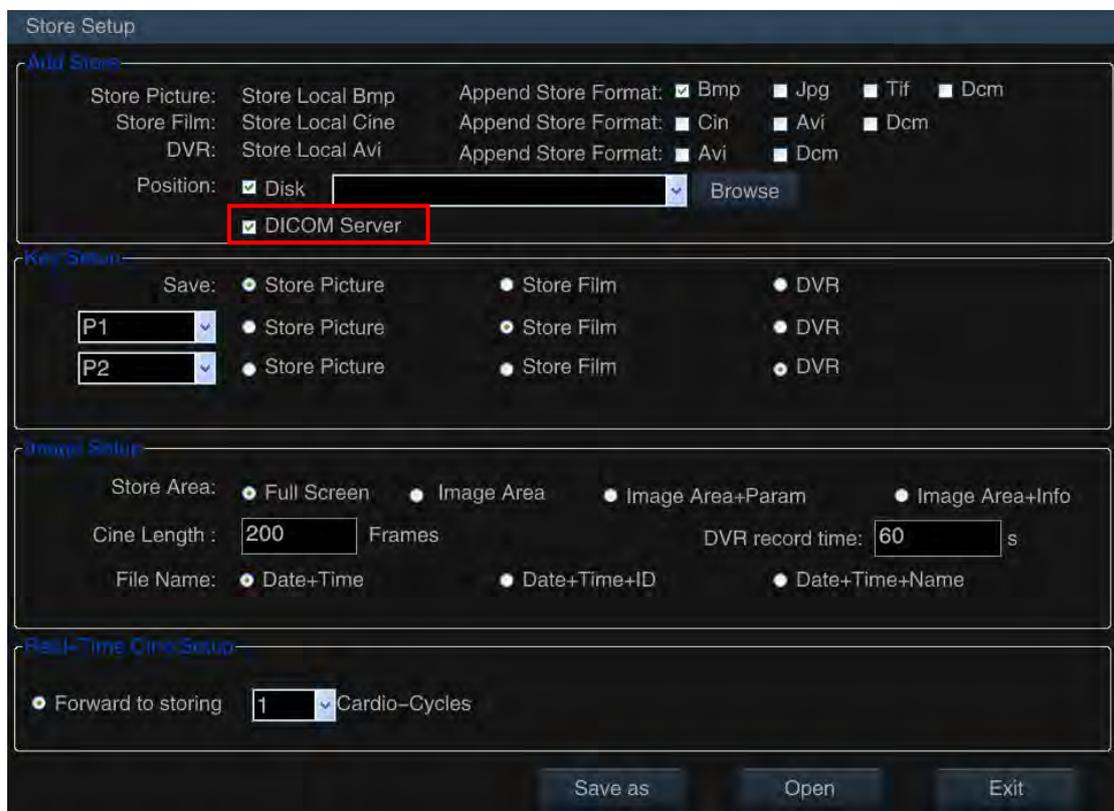

Fig. H-13 Store Setup screen
- 2) Select **DICOM Server**, as shown in Fig. H-13. When, after setup, you press the **Save** key or the **key combination P1 ~ P6 (Dis)**, the image will be saved to the local hard disk, and meanwhile a DICOM single frame image will be sent to the DICOM server.